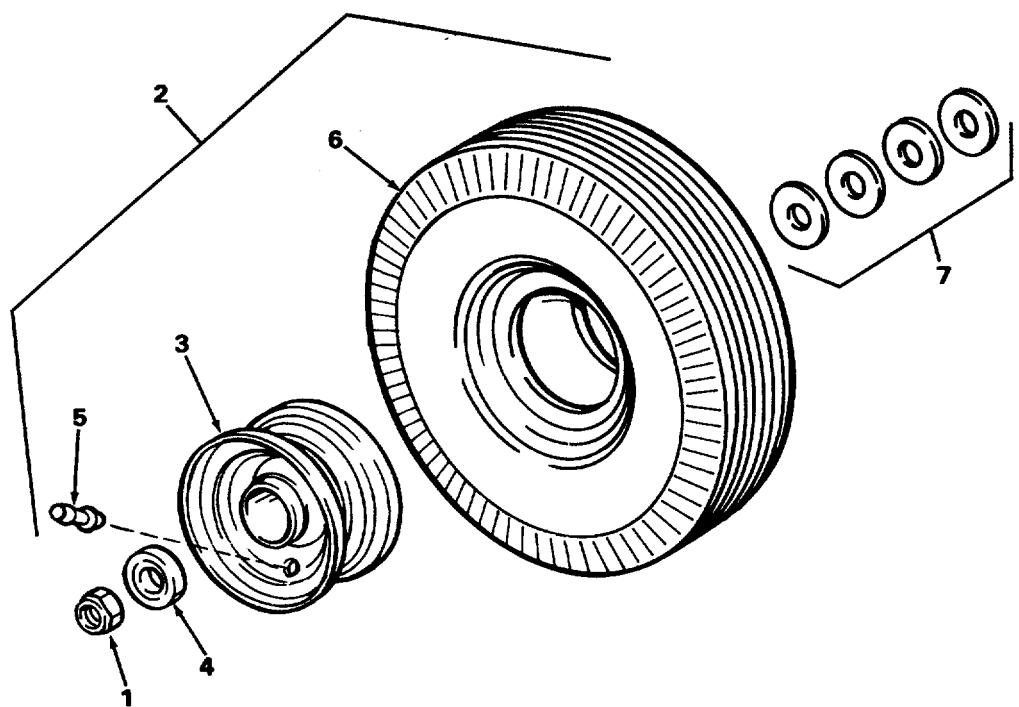

Figure 9. Wheel assembly
(1) ITEM NO	(2) SMR CODE	(3) FSCM	(4) PART NUMBER	(5) DESCRIPTION AND USABLE ON CODES (UOC)	(6) QTY
**GROUP 09 WHEEL ASSEMBLY AND AXLE****FIG. 9 WHEEL ASSEMBLY**